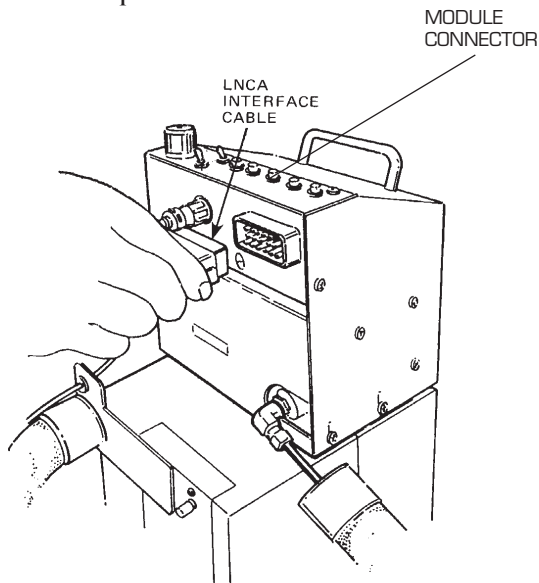

Figure 2.19
5. Connect the LNCA/DSC interface cable from the MODULE connector on the LNCA Adapter (see Figure 2.19) to the LNCA connector on the back of the instrument. Tighten the thumbscrews at the MODULE connector on the LNCA Adapter.
3. Connect the interface cable from the MODULE connector on the LNCA Adapter (see Figure 2.19 on page 2-34) to the LNCA connector on the back of the instrument. Tighten the thumbscrews at the MODULE connector on the LNCA Adapter.